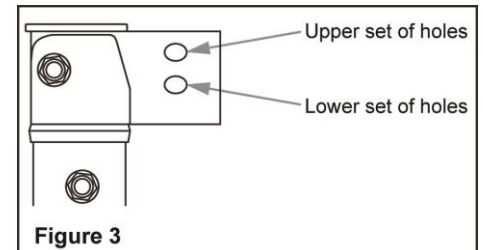

Figure 3
- If this distance is less than 1-1/4" (32mm), use the upper set of holes on the Brute Super Foot. (Fig. 3)
- If this distance is greater than 1-1/4" (32mm), use the lower set of holes on the Brute Super Foot. (Fig. 3)
8. Secure the Brute Super Foot head to the tongue jack's extension tube with a 3/8" bolt, washer, and locking nut (item 5 in the Contents table).
10. Install the extension leg (item 2) to the head (item 1) with the other bolt, washer, and nut provided (item 5), using a 9/16" wrench. Use another 9/16" wrench to hold the bolt head in place while you fully tighten the nut.
11. Install the base plate (item 3) to the extension leg (item 2) with the lynch pin (item 6) provided.